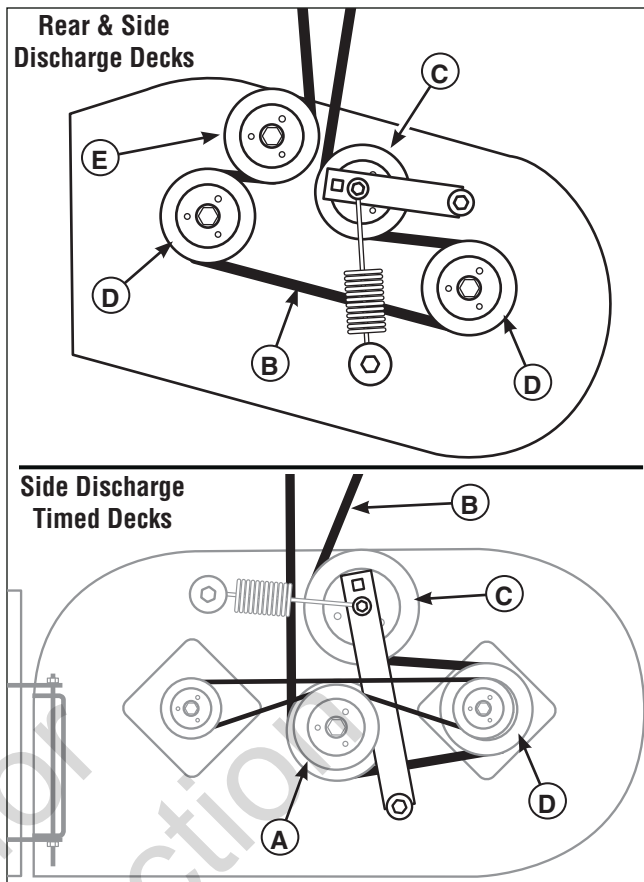

Figure 7. Mower Deck Belt Routing
5. Carefully rotate the breaker bar **clockwise** and install the drive belt on the left spindle pulley. Carefully release the tension on the breaker bar. The belt should be routed exactly as shown in figure 7.